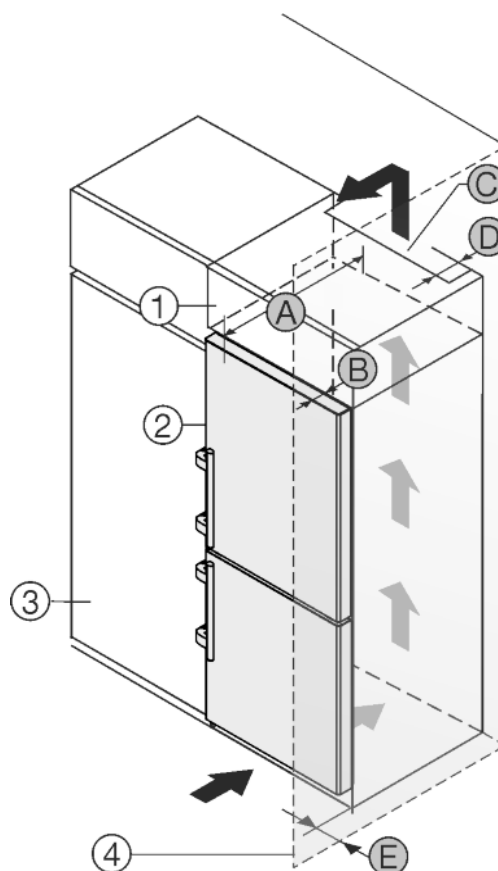

Fig. 27
The appliance can be built into kitchen units. A top cupboard *Fig. 27 (2)* can be added above the appliance in order to bring the appliance *Fig. 27 (1)* up to the height of the fitted kitchen units.
The appliance can be installed right next to the kitchen cabinet *Fig. 27 (3)*. The appliance must protrude by depth *Fig. 27 (B)* from the front of the cabinet so that the doors can be opened fully. The appliance may protrude further depending on the depth of the kitchen cabinets and whether wall spacers are used.
- At the back of the top cabinet, there must be an air outlet shaft with depth *Fig. 27 (D)*, spanning the entire width.
- The ventilation shaft *Fig. 27 (C)* must be observed under the ceiling.
If the appliance is installed with the hinges next to a wall *Fig. 27 (4)*, the distance *Fig. 27 (E)* between the appliance and the wall must be observed. This is how far the handle protrudes when the door is open.